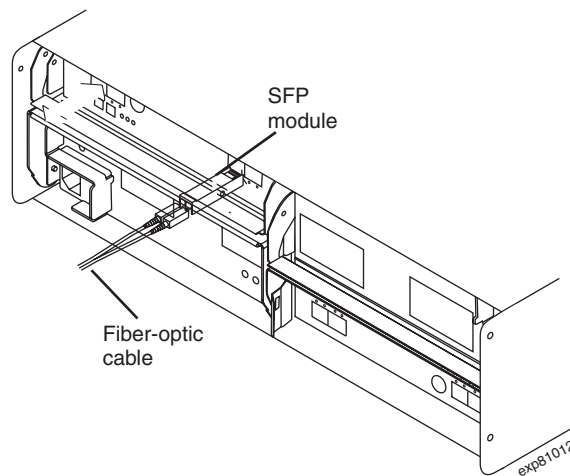

Figure 61. Installing an SFP module and connecting an LC-LC cable to the storage expansion enclosures
2. Connect an LC-LC fiber-optic cable into the SFP module, as shown in Figure 61 on page 86.
Install an SFP module in the SFP port on the back of the storage expansion enclosures; then, connect the other end of the LC-LC cable into the SFP module, as shown in Figure 61.
Table 28. Description of Figure 61